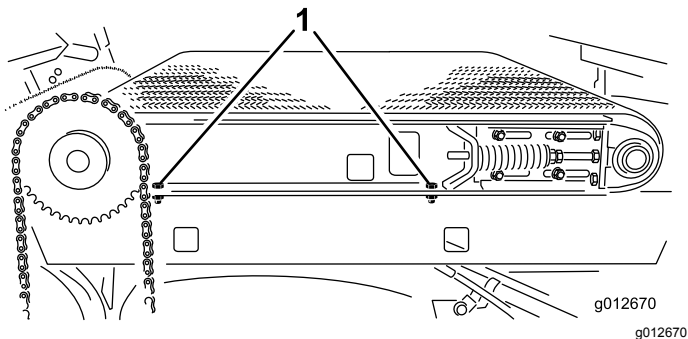

Figure 30
2. At the right side of machine, tighten 2 capscrews that secure slider-frame rail to the right fender (Figure 30).